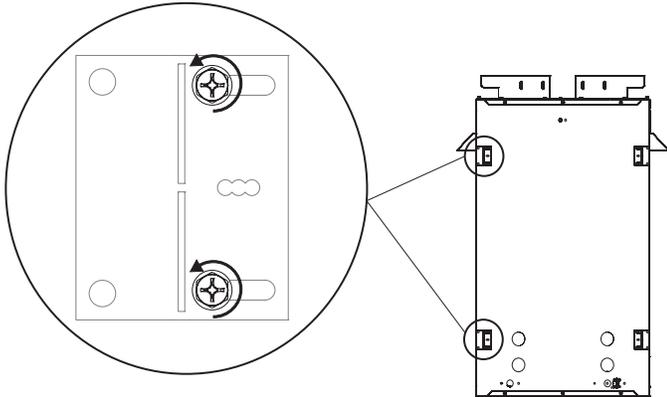

Figure 7
4. Loosen but do not remove the eight screws securing the nailing flanges to the firebox. **See Figure 7.**